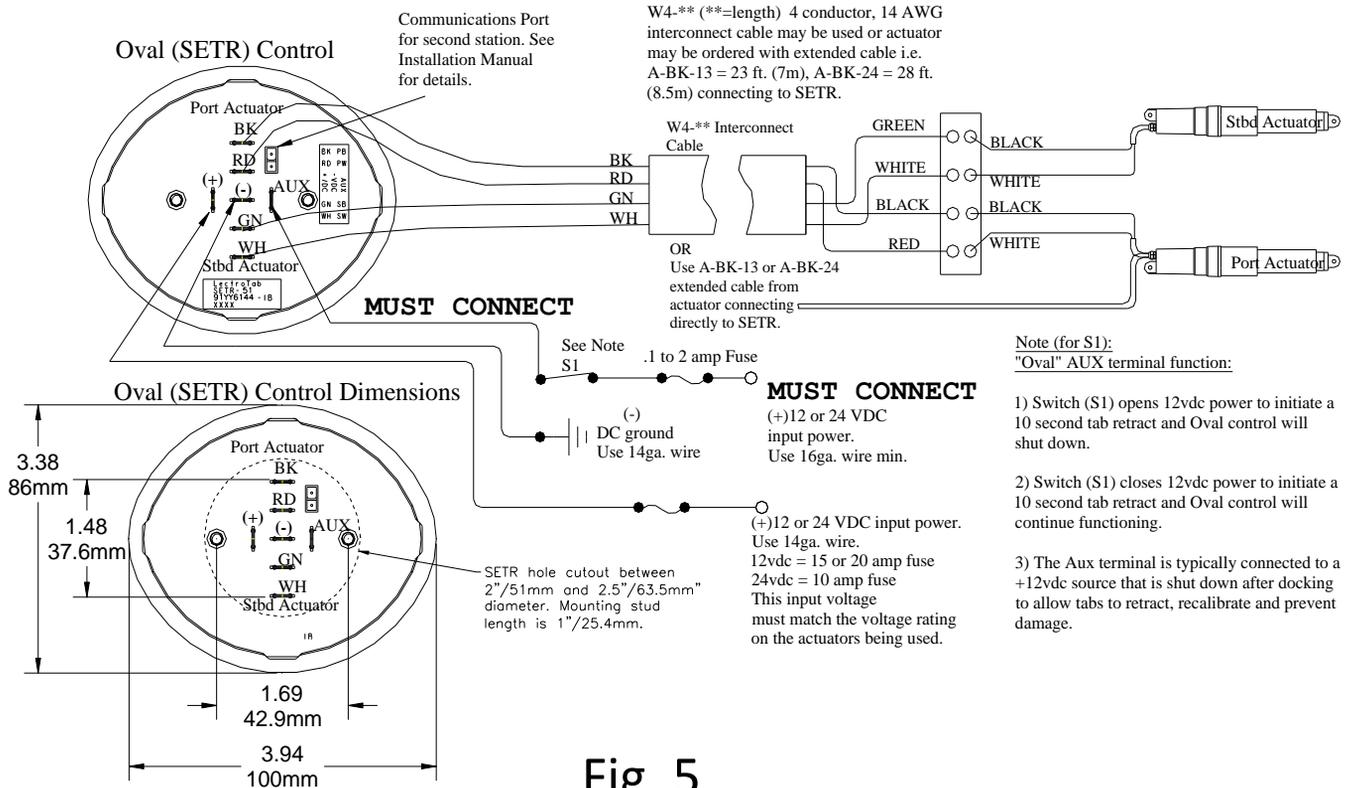

Fig. 5
2. If the W4-\*\* cable is used to connect the switch to actuators, route the cut cable end from the Oval switch to the transom terminal strip. The push-on terminal end of the 20' (6.1m), 4-conductor, 14 AWG (2.08mm sq.) cable connects to the Oval switch (KA Kits), or route the longer 23' (7m) actuator cable directly to the Oval switch (XKA Kits). Connect cable to switch as shown in Fig.5.
3. Connect a fused 12vdc or 24vdc power source as shown in Fig 5. **Power source voltage must match the actuator voltage.** The **AUX** terminal on the Oval control **MUST** be connected to a switched +12 or 24vdc source such as an ignition key switch or auxiliary panel switch. When the key switch is turned off, the tabs automatically retract.